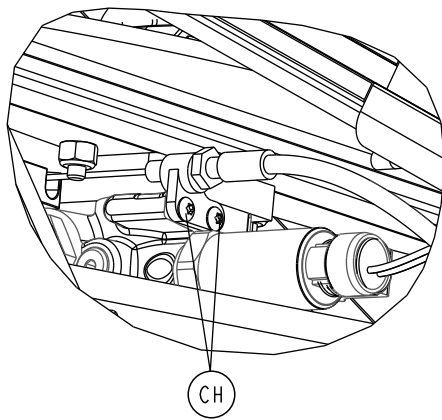

Figure 99 –
5. Using a T10 Torx driver, remove the two round washer head tapping screws (CH) that secure the manual release cable bracket to the hydraulic assembly (Figure 99). Save the screws.